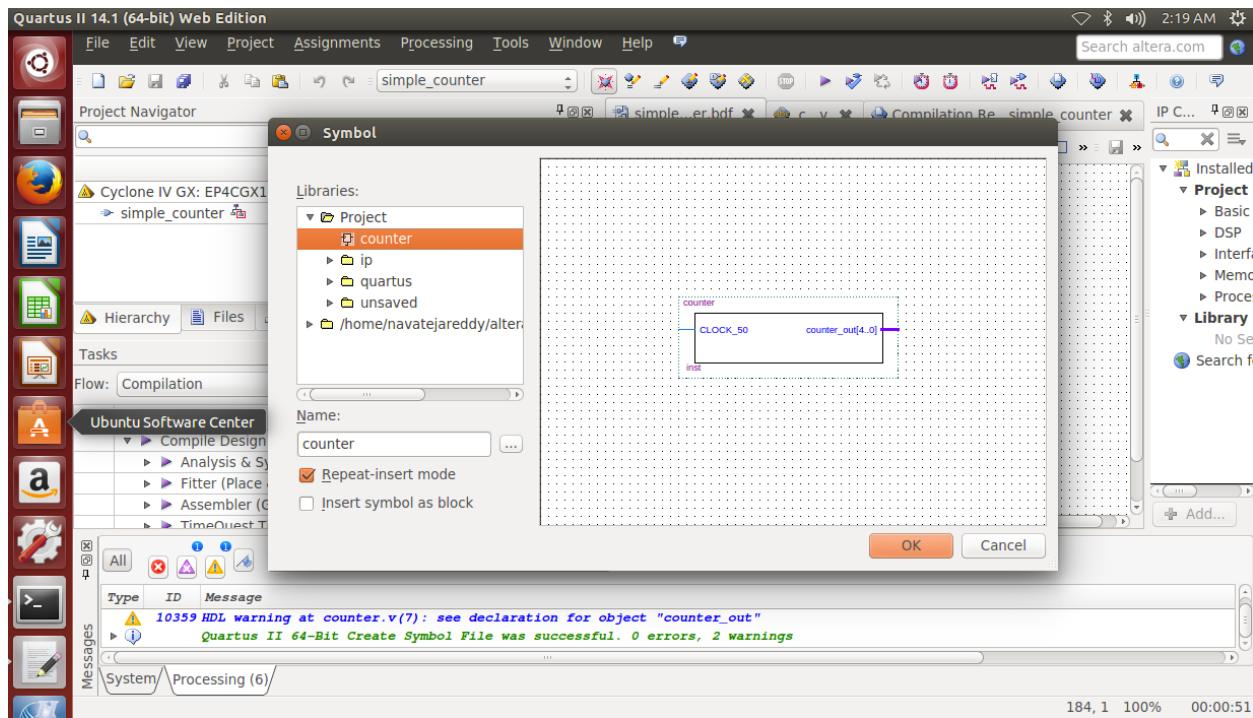

fig 3.1.6
19. Select the newly created counter symbol by clicking it's icon. See fig 3.1.6